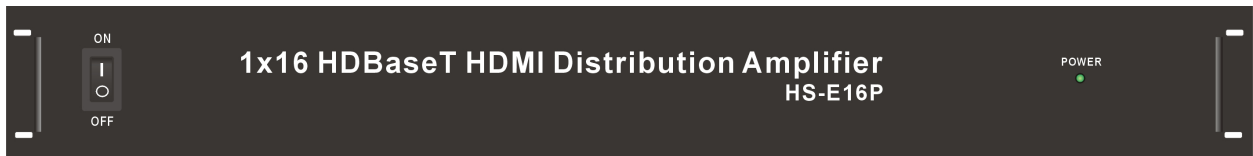

Figure 4-1 Mount HS-ExxP on a Standard Bracket with 1U Rack-mount
HS-Exx (P)/Sxx (P) has a black metallic housing. It can be placed on a sturdy desk directly or installed on a bracket. See Figure 4-1 below: